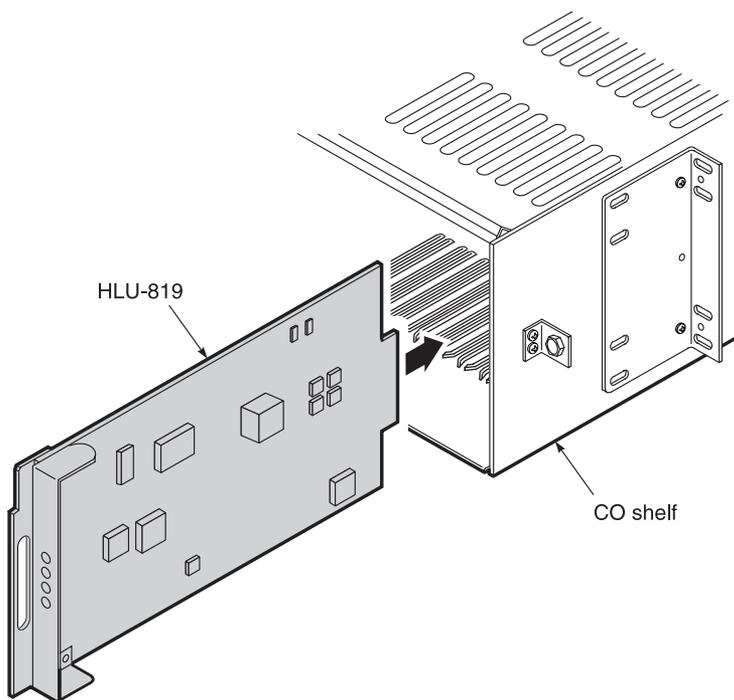

Figure 4. *Installing the HLU-819 into a Shelf*
- 1 Slide the HLU-819 into the guide rails of any of the open 28 slots on the shelf (Figure 4).